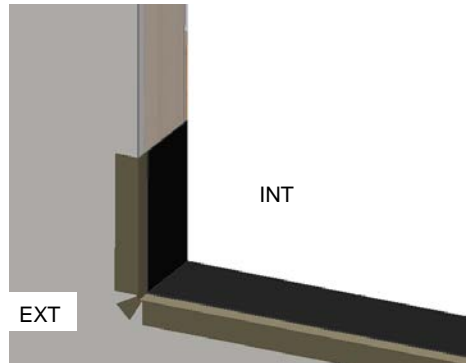

Fig. 7
- E) Flashing tape must cover the entire sill. If needed, apply an additional flashing piece over the first one (start from the exterior and work towards the interior). Maintain a minimum 1" overlap. (Fig. 7)